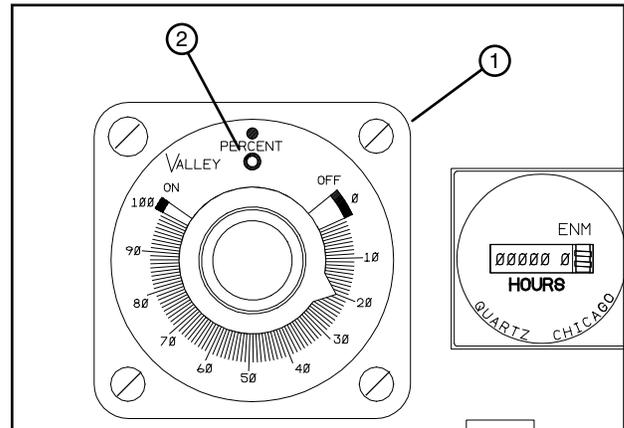

Figure 31-1 ATC Percent Timer Shown
1. Set the percent timer to 20% on the dial. See Figure 31-1.
<p>The Eagle HQ4E has an indicator light that is ON solid during the timer ON cycle. It blinks twice per second during the timer OFF cycle. See Figure 31-1.</p>	<p>The ATC 304GX has an indicator light that is ON solid during the timer OFF cycle. It blinks at a variably increasing rate during the ON cycle. See Figure 31-1.</p>